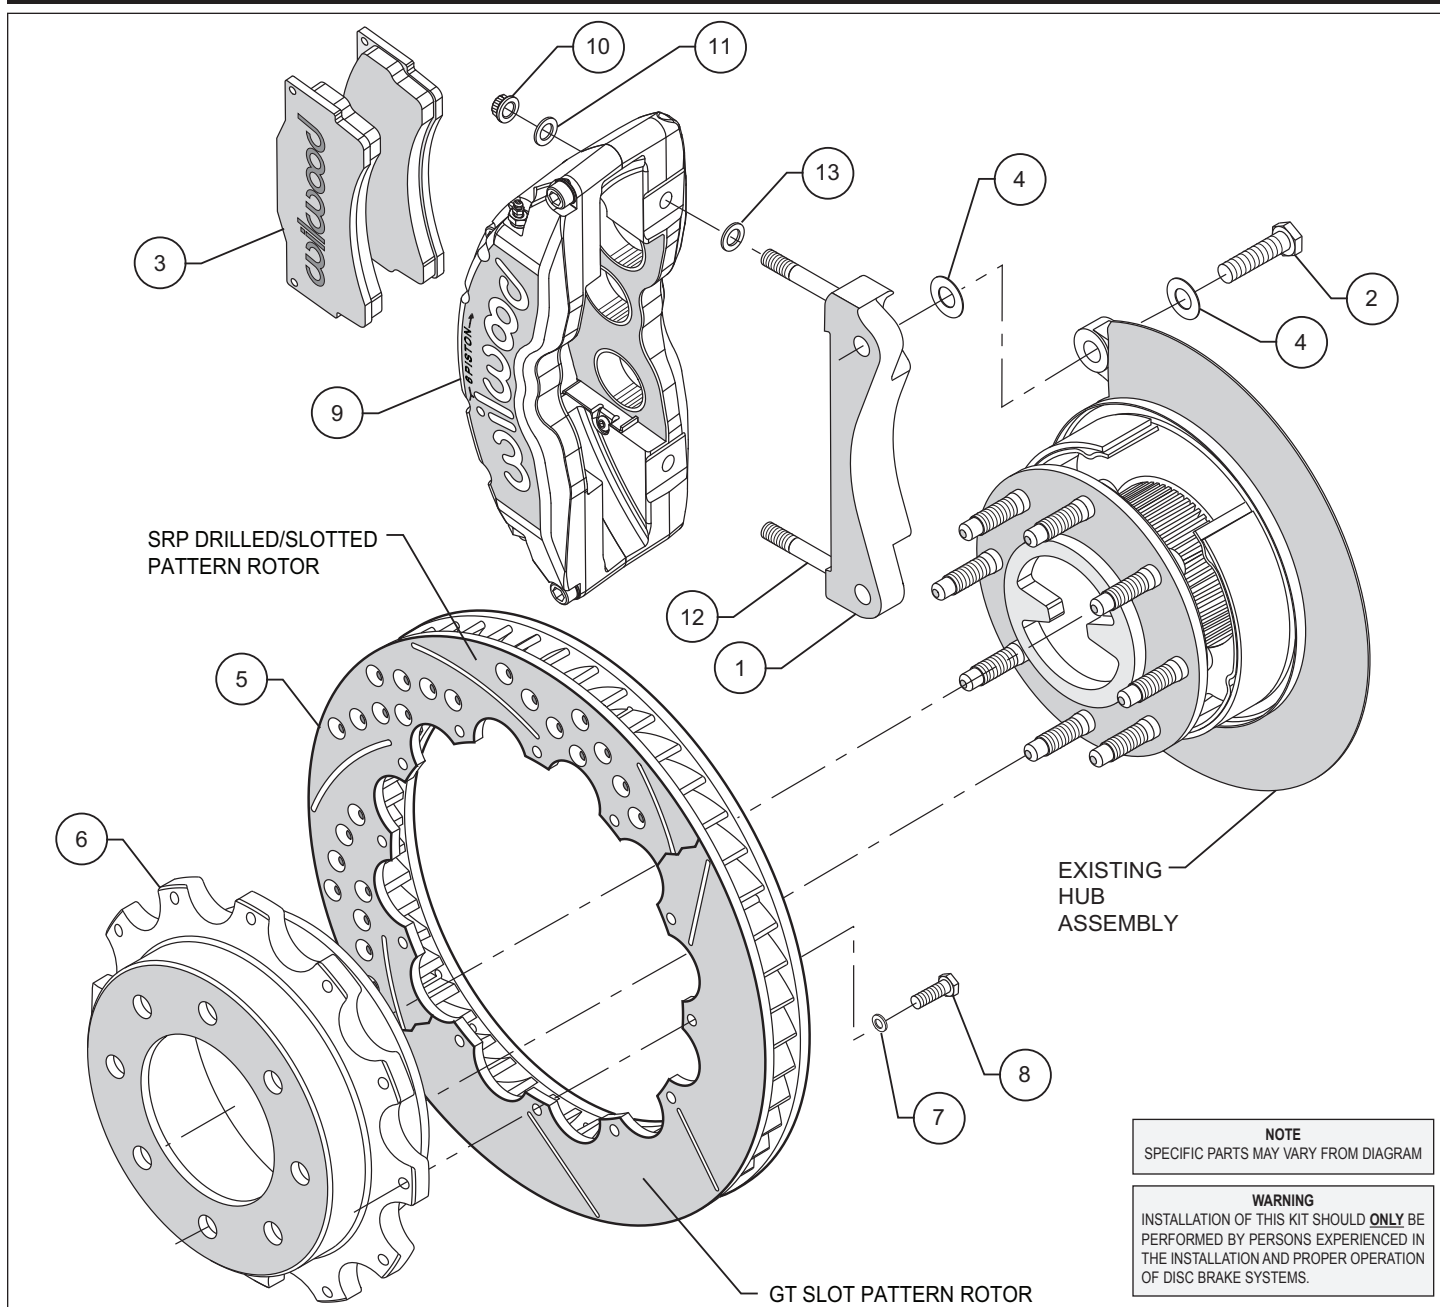
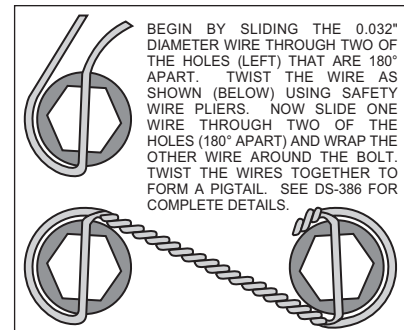

Figure 1. Typical Installation Configuration
Figure 3. Safety Wire Diagram
- The caliper mount bracket assembly (1) should be installed first with clean, dry threads on the mounting bolts (2). Install the bracket by sliding bolt (2) through shim washer (3) from the rear side of the hub through the OEM caliper mounting bracket ears, then through an additional shim washer (4) and into the bracket (1). The bracket must tighten squarely against the outboard side of the caliper mount bosses on the upright. Inspect for interference from casting irregularities, machining ridges, burrs, etc. Use one shim (4) between the bracket and upright during initial trial fitting. Later, after the caliper, pad, and rotor alignment have been checked, and any necessary shims have been put in place, the mounting bolt threads (2) should be coated with red *Loctite*® 271 and torqued to 95 ft-lbs.
- Attach the rotor (5) to the hat (6) using bolts (8) and washers (7) as shown in Figure 1. Using an alternating sequence, remove bolts one at a time, apply red *Loctite*® 271 to the threads, and torque to 198 in-lbs. Safety wire bolts using standard 0.032 inch diameter stainless steel safety wire as shown in Figure 3. Please refer to Wilwood's data sheet DS-386 (available at www.wilwood.com/Pdf/DataSheets/ds386.pdf) for complete safety wire installation instructions.
- Lubricate caliper mounting studs and nuts with lightweight oil. Install one shim (13) over each stud (12) on the radial mount bracket (1). Slide the caliper (9) in place over the studs and rotor and install the washers (11) [up to 4 may be required on each side to keep the lock nut from bottoming out on the stud], and lock nut (10) to hold the caliper in place. The caliper bleed screws should be pointing up. Snug the lock nuts (10) and check that the rotor (5) is centered in the caliper (9). Add or subtract .029" shims (4) as necessary between the caliper mount bracket and the caliper mount bosses on the upright assembly to center the caliper.
- Remove the two caliper center bridge pad retainer bolts, nuts, and tubes from the caliper. Slide the brake pads (3) into place. They should install easily without interference. Check that the outside radius of the brake pad is aligned with the outside diameter radius of the rotor face. Add or subtract shims (13) between the caliper and mount bracket to gain the proper alignment. Reinstall the two center bridge pad retainer tubes, bolts, and lock nuts. The locknut should be snug without play in the bolt or tube. Be cautious not to over tighten.
- Once all clearances have been checked, remove the wheel, caliper and rotor from the axle flange. Secure the caliper mounting bracket (1) to the axle flange body with bolts (2) while coating the threads with red *Loctite*® 271. Torque the bolts to 95 ft-lbs. Reinstall the rotor and again use several lug nuts to hold it in place. Reinstall the caliper, torque the caliper nuts (10) to 30-35 ft-lbs.